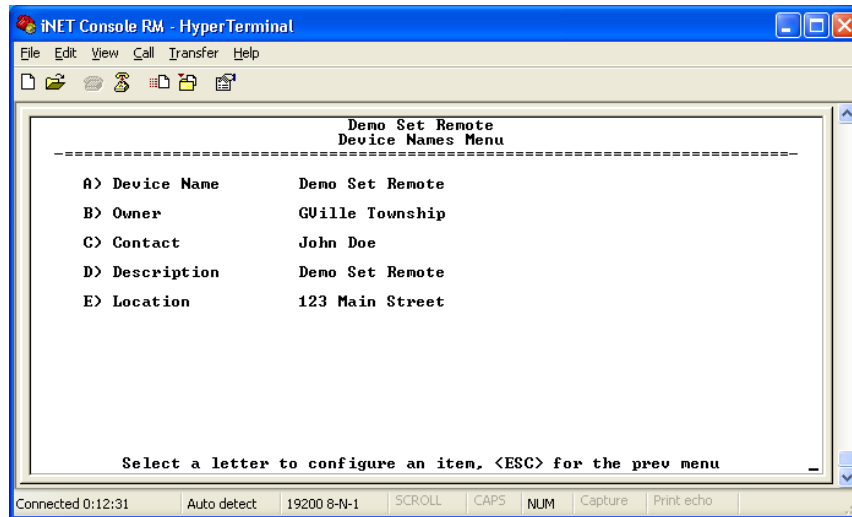

Figure 2-14. Device Names Menu
- **Device Names Menu**—Fields used at user’s discretion for general administrative purposes. The Device Name field is used by the transceiver as the “Realm” name for network security and in the MS screen headings. (See Figure 2-14 on Page 26)